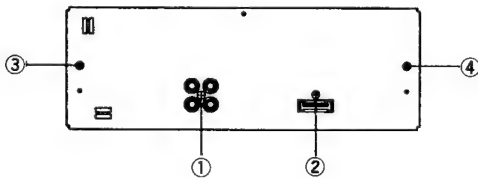

Fig. 2
1. Remove screws ① to ④ in Fig. 2, and then remove the rear panel.
1. Remove the rear panel in Fig. 2 (Refer to step ②)